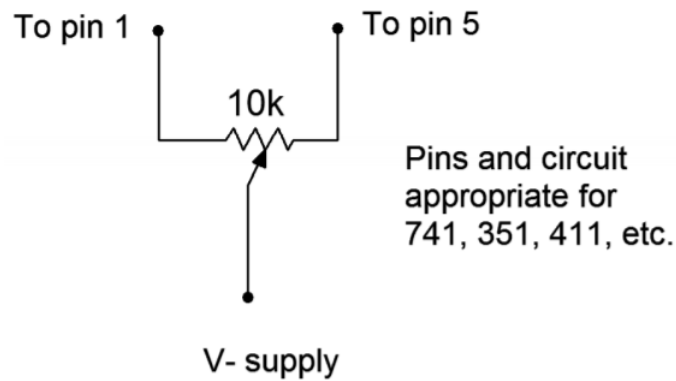

Figure 11.5.2
8. Manufacturers normally allow for output nulling through the addition of external circuitry. Modify the circuit by adding the components shown in Figure 11.5.2. Using the $47k\ \Omega$ resistor for R_f , adjust the potentiometer to null the output. Also, record the DC output voltage with the potentiometer fully clockwise and fully counterclockwise.